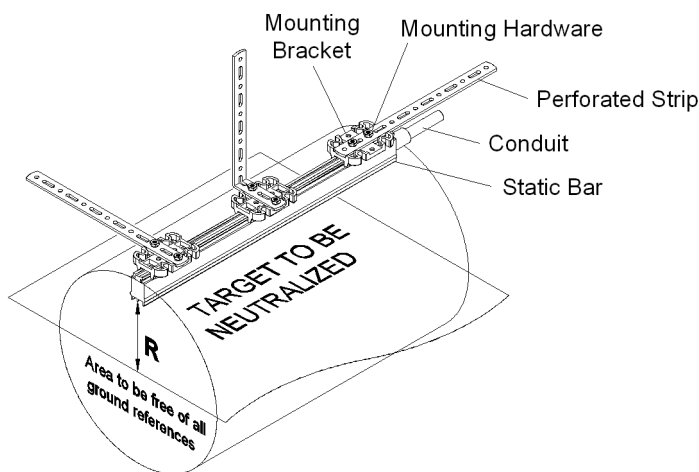

Figure 3. Static Bar Mounting Location
2. The appropriate operating distance. “R” (**Figure 3**) for the static bar is in part determined by the application: